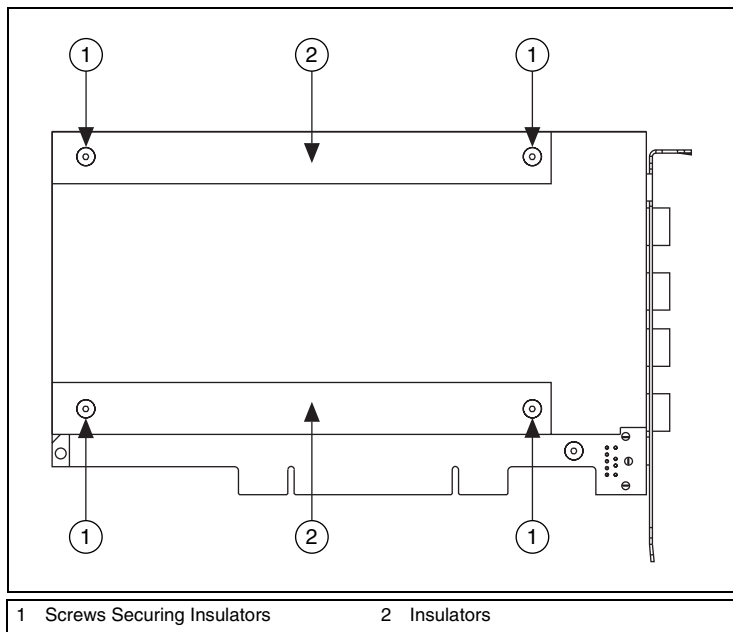

Figure 17. Removing the Insulators from the NI PCI-4060
3. Remove the four screws that secure the top and bottom insulators onto the device, as shown in Figure 17.